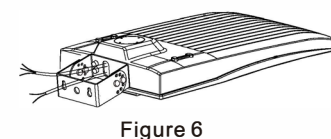

Figure 6
Step 2. Install the bracket on the fixture (Figure 6)